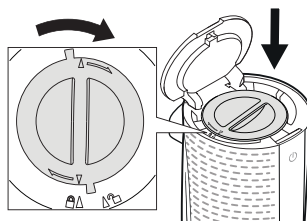

fig. 3
- Then put the filter back in its housing by rotating the cover clockwise until the pointer on the cover matches the symbol  (fig.3).